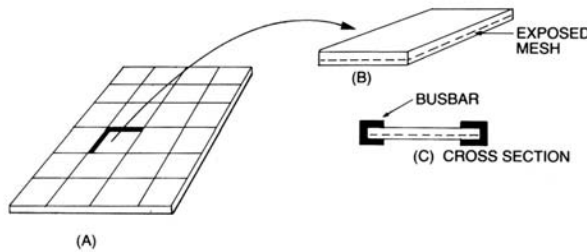

Figure 6-1. Busbar Termination.
There are essentially two basic barrier terminations for shielding windows: (1) conductive busbar; (2) conductive gasketing. The conductive busbar is used to contact the shielding screen or conductive coating. The busbar terminates the edge of the window opening by contacting the screen mesh while providing a flat surface on one or both sides of the window (Figure 6-1) to make electrical contact to the enclosure bezel. Conductive gasketing is often used in combination with conductive busbars to provide a resilient interface for aid in absorbing shock and vibration.
Generally, the more economical way to manufacture small shielding windows is to either laminate or cast knitted wire mesh screen or woven mesh screen into large area sheets and/or to dissect the sheets into several smaller area windows. The windows that are cut to size from the larger sheets have the mesh screen emerging at the four edges of the window as shown in Figure 6-1. Contact is made to the screen by means of a conductive busbar of either a highly conductive coating such as an organic-type paint which is highly filled with conductive silver particles or a deposited metal film.